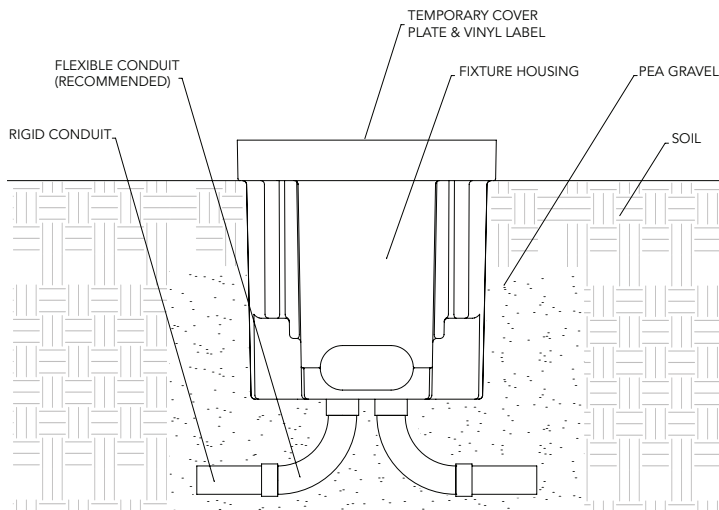

Figure 1
- Suitable for through wiring: Max. of (4) No. 12 AWG conductors (plus ground) rated for 90°C.
2. Dig hole approximately 16" in diameter to a depth suitable to make top of temporary cover plate 3/4" above grade (see fig. 1). Pea gravel is required for seating the luminaire housing and providing necessary drainage.